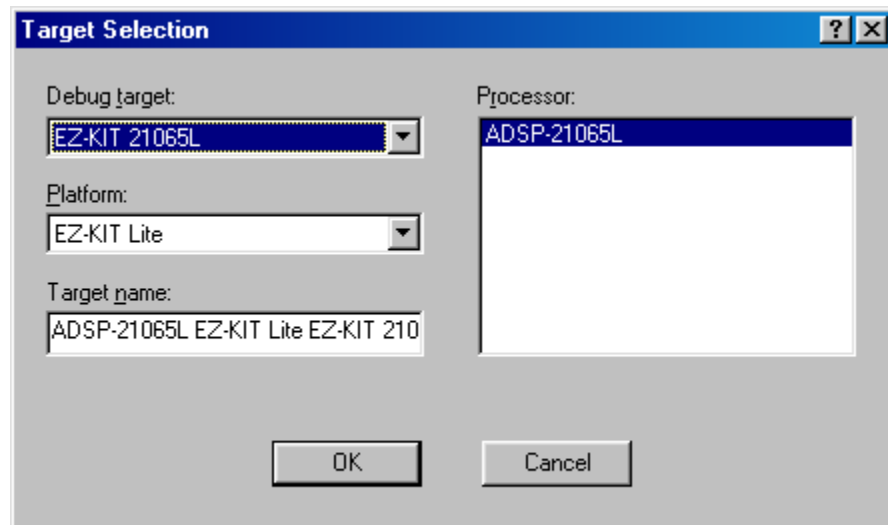

Figure 4-1 Target Selection Dialog
3. Configure the debug session as shown in Figure 4-1 and click OK.